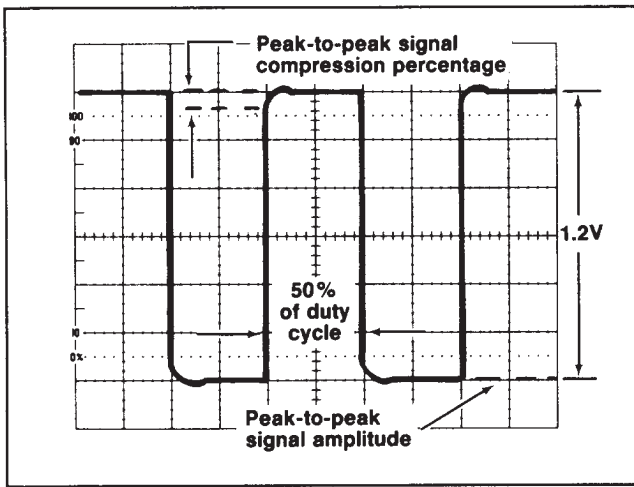

Fig. 5-6. Signal compression measurement.
- g. CHECK—compression for 5% or less. Refer to Fig. 5-6.